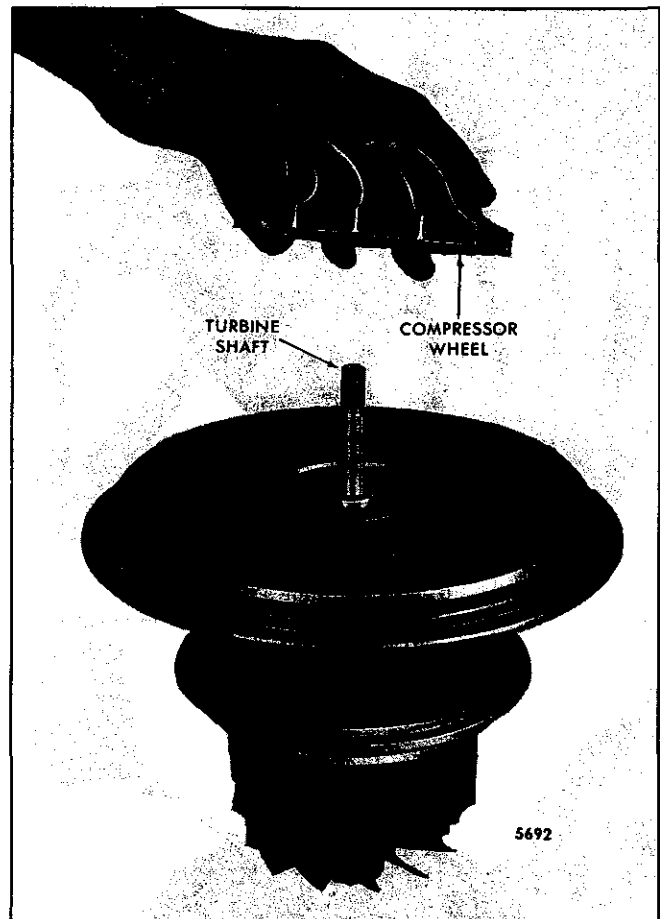

Fig. 6 - Removing Compressor Wheel from Turbine Shaft
6. Remove the compressor wheel from the turbine shaft assembly by hand (Fig. 6). The wheel is a slip fit on the shaft.